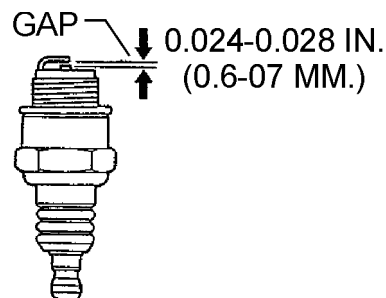

Figure 32. Spark Plug Gap
1. Remove and clean the spark plug (Figure 32), then adjust the spark gap to 0.024 ~0.028 inch (0.6~0.7 mm). This unit has electronic ignition, which requires no adjustments.